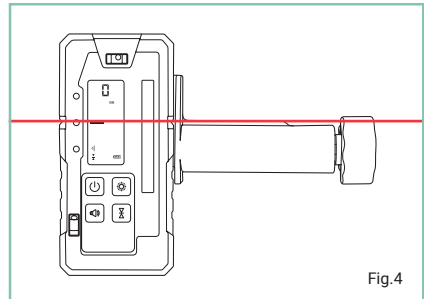

Fig.4
- When the level position has been located, the speaker will emit a constant beep and show the centre alignment line on the LCD screen (Fig.4).